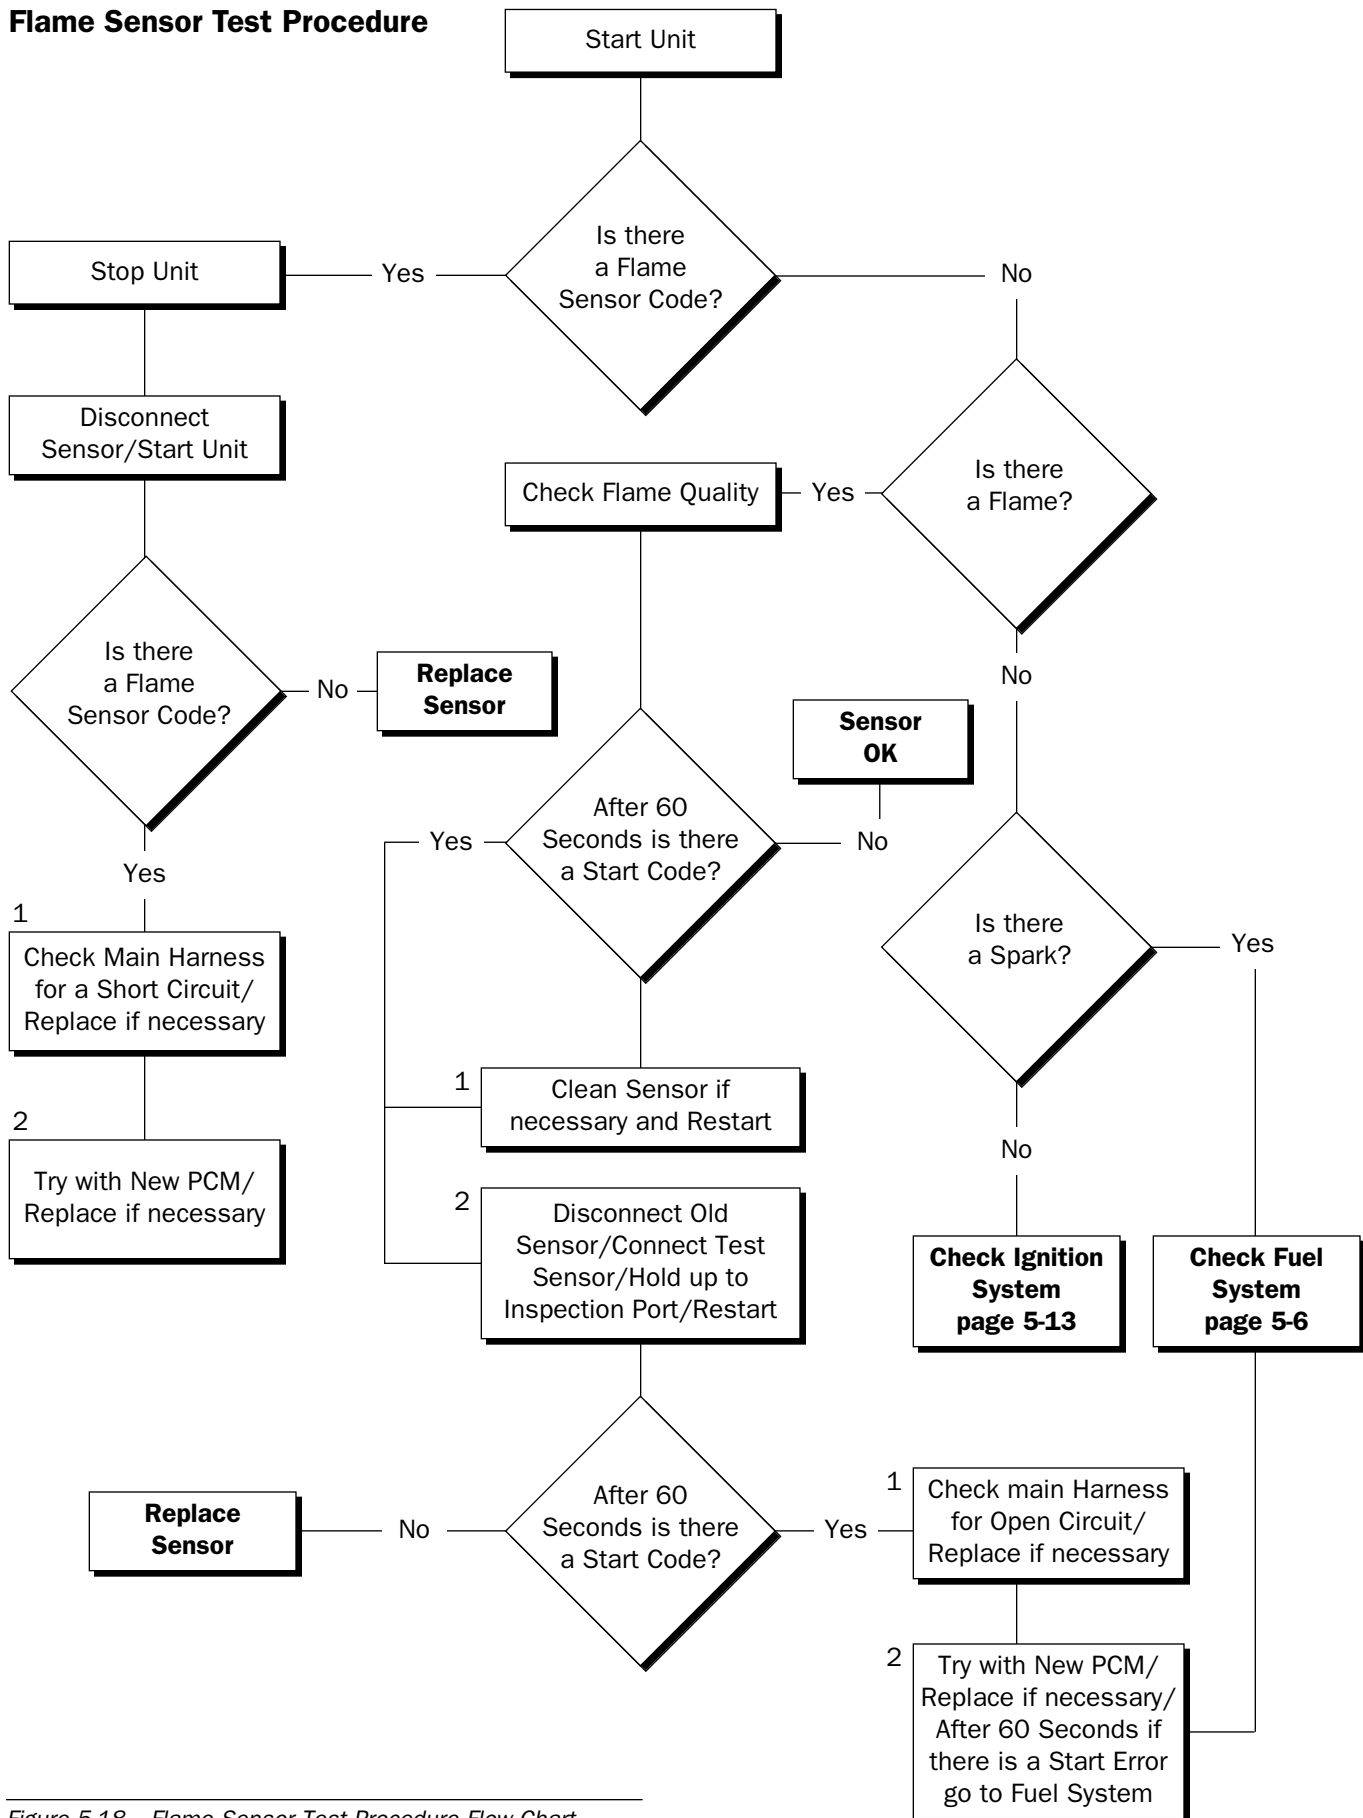

Figure 5-18 Flame Sensor Test Procedure Flow Chart
- Test the flame sensor. (*See following page for flowchart, Figure 5-18.*)